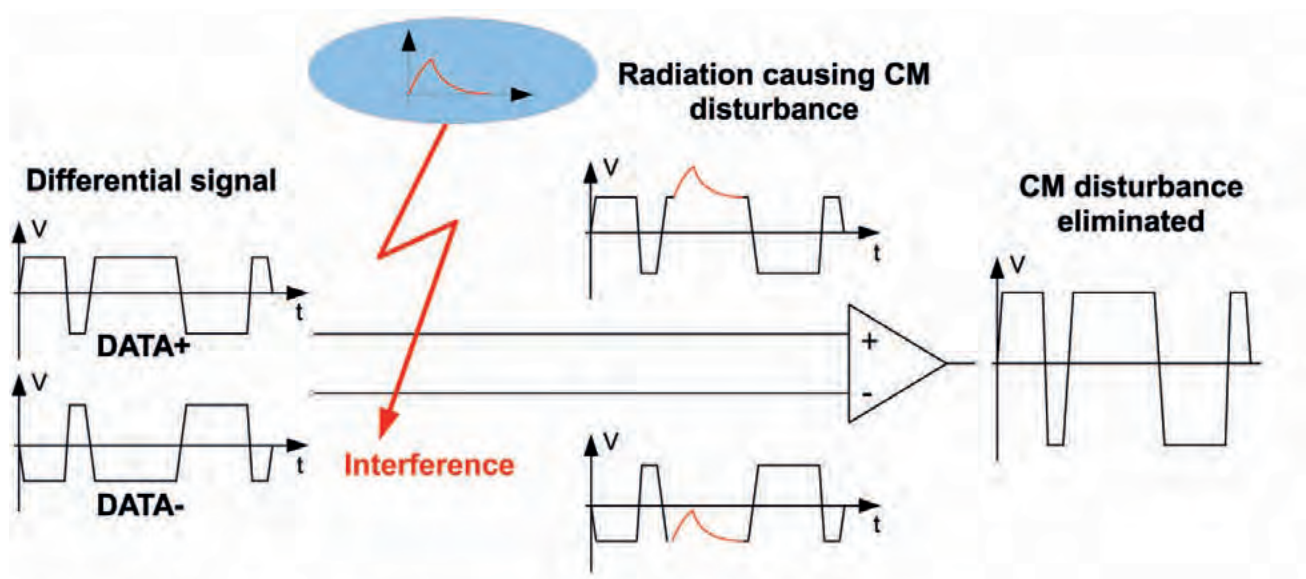

Figure 1: Differential signal transmission
A symmetrical conductor structure with two signal conductors can be operated in a so-called common mode or differential mode (DM), refer to Figure 1. Common mode (CM) stands for a common phase (and amplitude) of the signal fed to the two conductors. In differential mode, the signals have a phase shift of 180° , therefore they are in phase opposition.